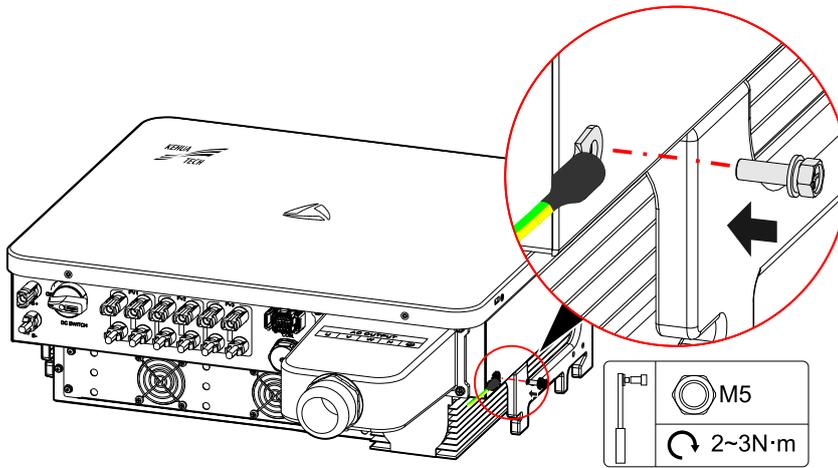

Figure3-16 External grounding connection
Step 2 Connect the crimped grounding wire to the external grounding terminal at the side of the inverter by equipped stainless steel combination bolt M5\*12, as shown in Figure3-16.